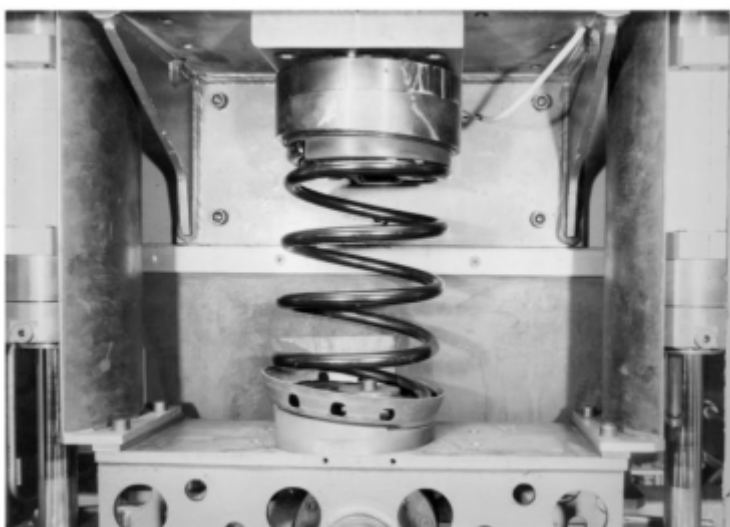

Figure 1: Straight Deflection Setup
3.1.3.1 Straight Deflection. This is the setup of a front straight deflection configuration with original spring seats and insulators. See Figure 1.